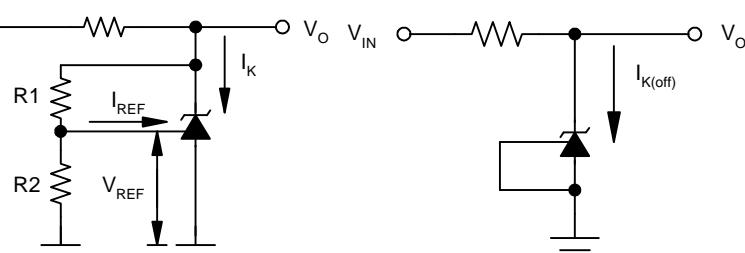

Figure 2. Test Circuit for $V_{\text{KA}}>V_{\text{REF}}$,
The APL431 is a 3-terminal adjustable voltage reference with specified thermal stability over applicable commercial temperature ranges. Output voltage may be set to any value between V_{REF} (2.5 V) and 20 V with two external resistors (See Figure 2). When used with an photocoupler, the APL431 is an ideal voltage reference in isolated feedback circuits for 2.5V to 12V switching-mode power supplies. This device has a typical output impedance of 0.1 Ω . Active output circuitry provides a very sharp turn-on characteristic, making the APL431 excellent replacements for zener diodes in many applications, including on-board regulation and adjustable power supplies.
*2 : use Figure 2